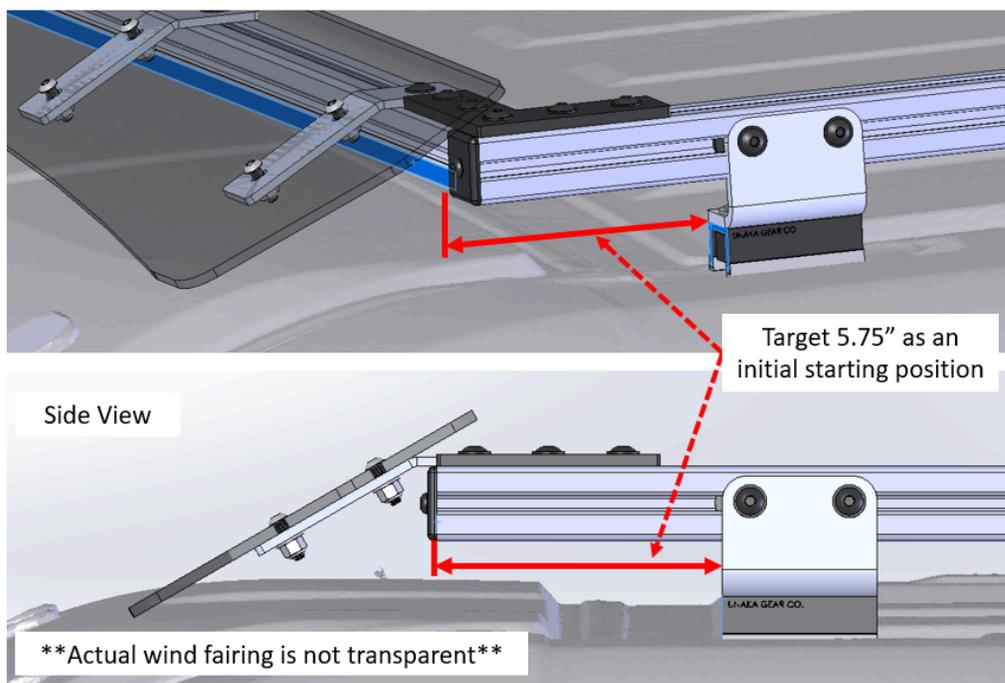

Figure 11:
1. Next loosely install the front cross bar and wind fairing. Adjust the cross-bar position as needed to achieve the desired installation position with respect to the van roof contour. We typically suggest setting the front of the cross bar roughly 5.75" from the front face of the forward most roof rack bracket to start with but this can be adjusted forward or backward as desired. An example showing the initial 5.75" mounting position is shown in Figure 11. Note that the wind fairing shown in Figure 11 is shown as transparent as an example, the actual wind fairing is black and is not transparent.